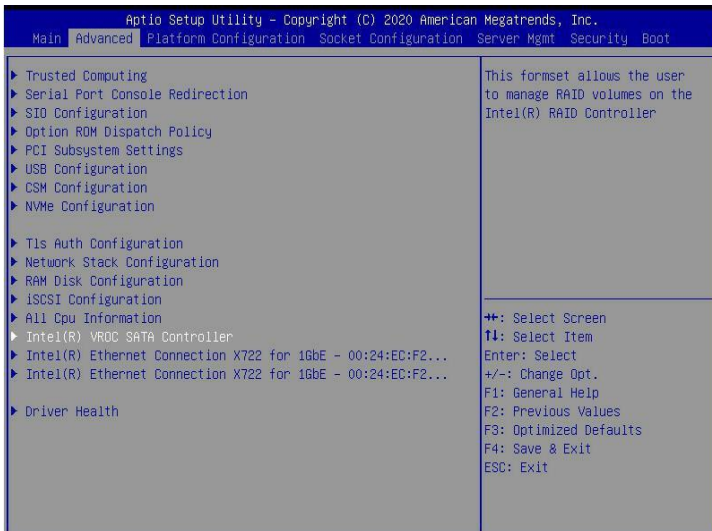

Figure 6-3
- d) Restart the server and enter the BIOS Setup interface, move to the Advanced page, you will see the intel(R) RSTe SATA Controller, press enter to enter the configuration RAID, as shown in Figure 6-3
❖ Figure 6-3 Intel RSTe SATA Controller